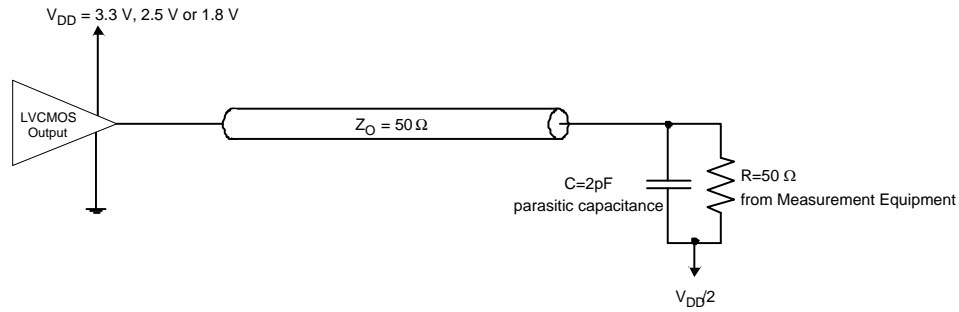

Figure 2. Test Load Circuit
4. All typical values are at respective nominal VDD. For switching characteristics, outputs are terminated to 50 Ω to VDD/2 (see Figure 2).